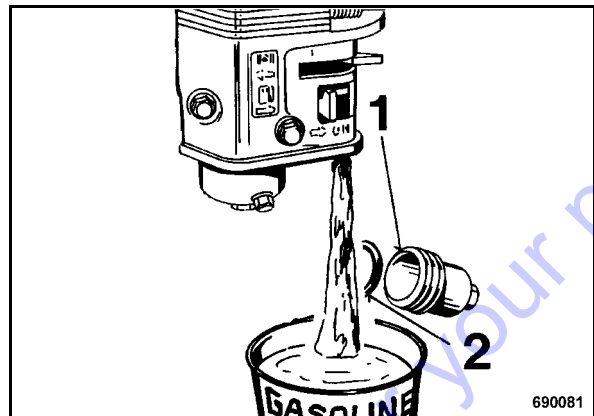

Fig. 56
- Unscrew the fuel sludge filter 1 (Fig. 56) and drain off all gasoline.
- Check seal ring (2) for cracks, replace the seal if damaged.
- Screw the fuel sludge filter with sealing ring (2) in tightly.